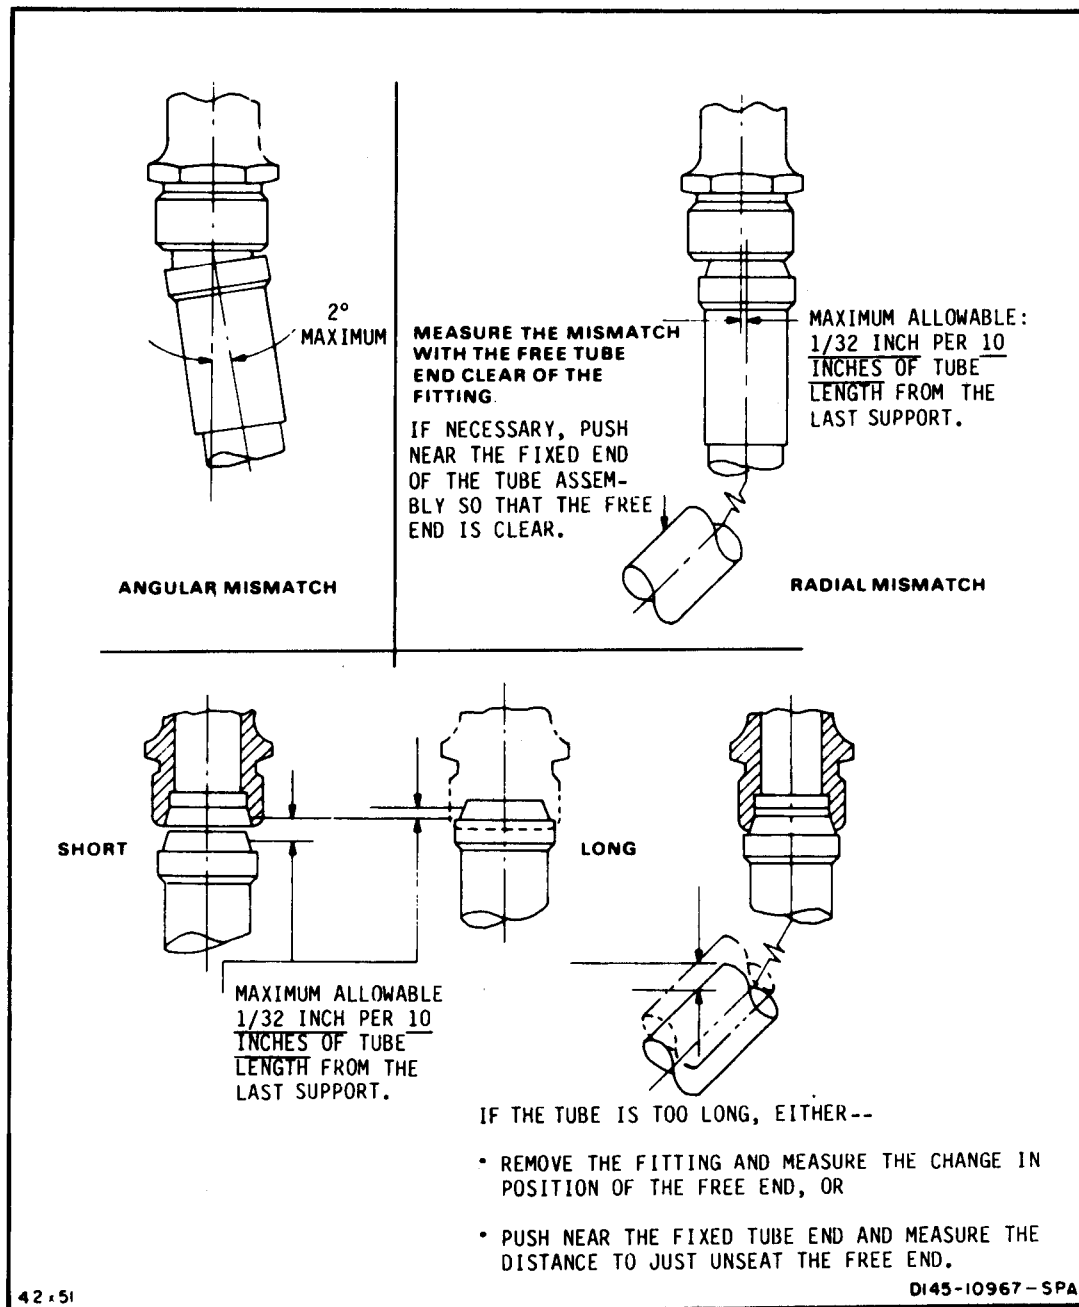

Figure 2-6. Types of mismatches.
17. Install the fitting onto the applicable component. Position the tube within the fitting, aligning the other end of the tube with the mating tube. Remove the tube, and trim the other end as required. The maximum gap allowed between mating tubes is 0.30 inch; see Figure 2-6 for types of mismatches and ways to handle them.